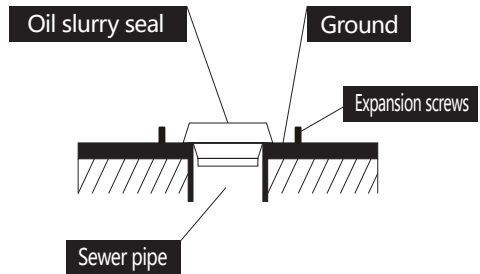

Figure 2
2. Place the sludge seal on the drainage port and do good sealing treatment. (Figure 2)